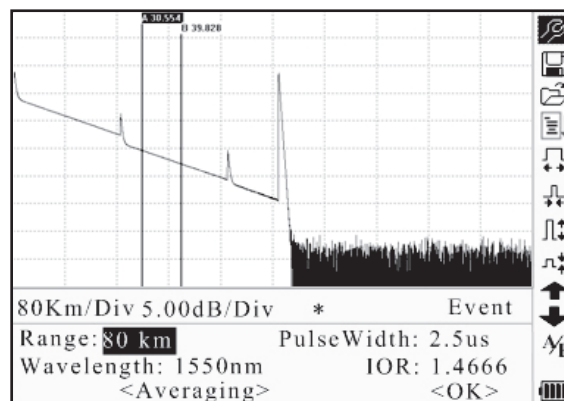

Figure 4-9. Alter Measurements in Realtime Testing
2. Use ◀ and ▶ to move to the parameter to be changed (Figure 4-9), and then press Enter.